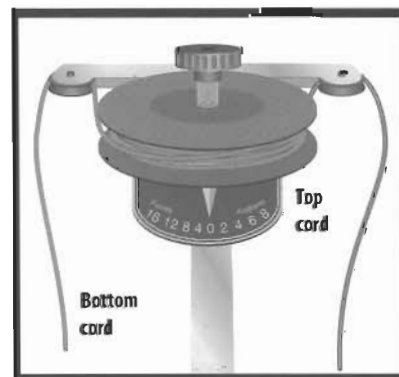

Figure 4
6. Thread the end of the bottom cord through the left pulley from right to left (Figure 4). Pull the bottom cord until the ends are even.